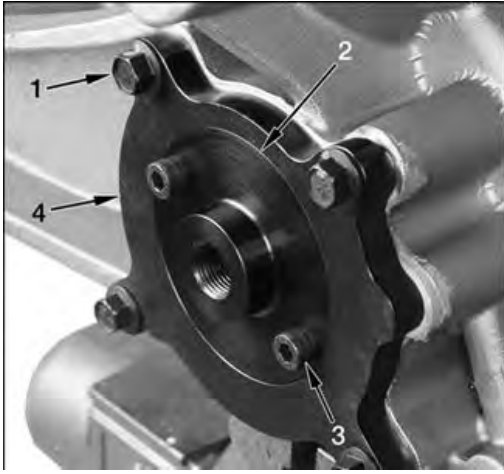

Figure 17. HP Fuel Pump Removal Tool on Drive Housing
32. Install Forcing Screw Adapter 12-454-01-4 using two Socket Head Bolts 12-454-01-3. Only thread Socket Head Bolts 12-454-01-3 halfway into holes in pump gear (Figure 17).
1. M10 x 40 bolt (4)
3. Socket Head Bolt 12-454-01-3 (2)
33. Install Forcing Screw Adapter Holding Plate (12-454-01-1) on drive housing with four pump-to-drive housing bolts removed in previous step (Figure 17). Torque to 20 lb-ft (27 N·m).